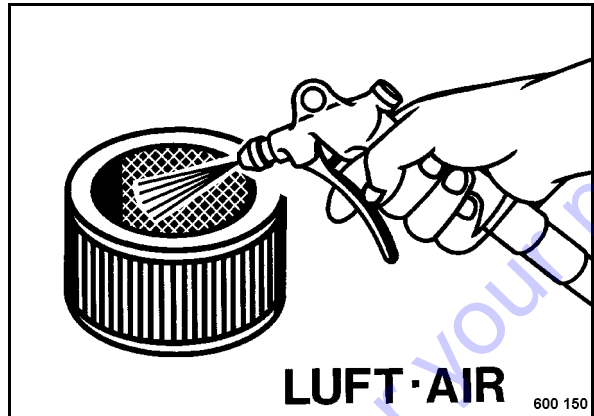

Fig. 42
- Blow the filter cartridge (Fig. 42) out from inside to outside with dry compressed air (max. 5 bar).